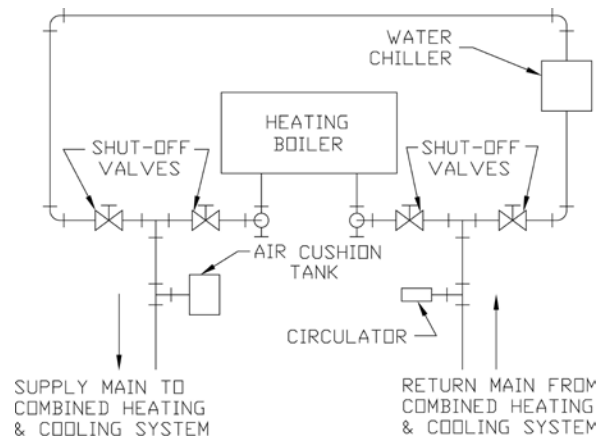

Figure 7: Recommended Piping for Combination Heating and Cooling (Refrigeration) Systems
- If boiler is used in connection with refrigeration systems, boiler must be installed with chilled medium piped in parallel with heating boiler using appropriate valves to prevent the chilled medium from entering the boiler. See Figure 7. Also consult I=B=R, "Residential Hydronic Heating Installation and Design Guide".